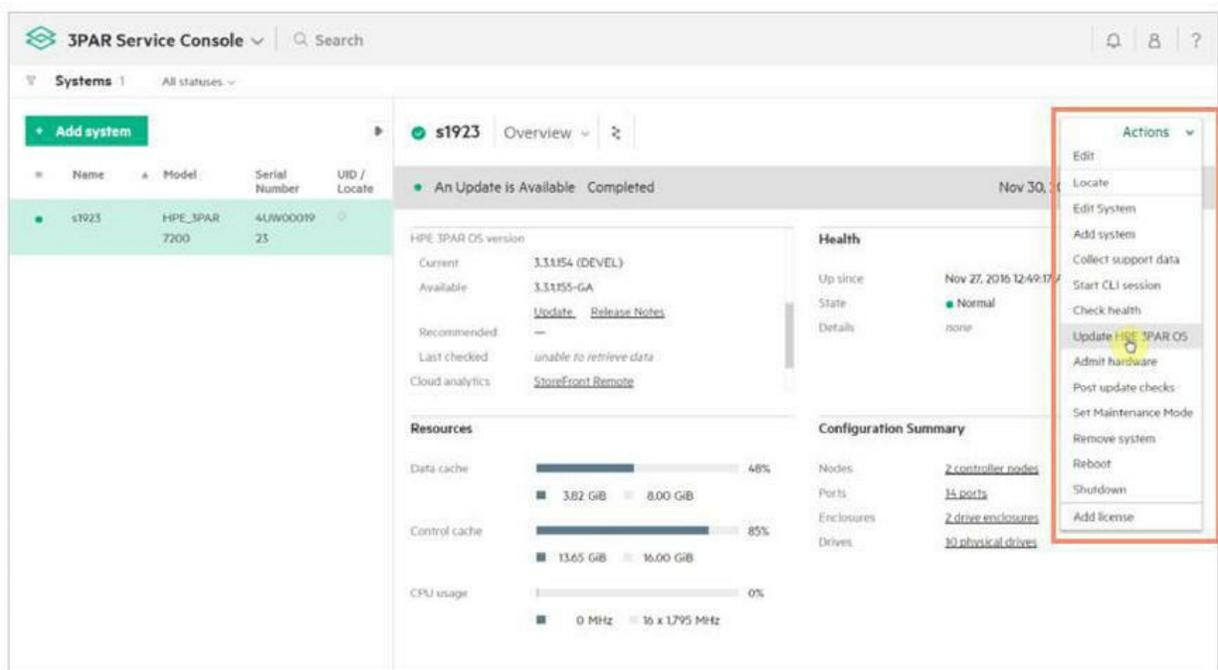

Figure 5-94 Checking for updates on the 3PAR Service Console
The 3PAR Service Console (SC), as shown in Figure 5-94, also allows service functions to be performed by a company admin, HPE support, or an authorized service provider. SC replaces Service Processor Onsite Customer Care (SPOCC), the GUI for Service Processor (SP) versions 4.4 and earlier. SC functionality is similar to SPOCC.